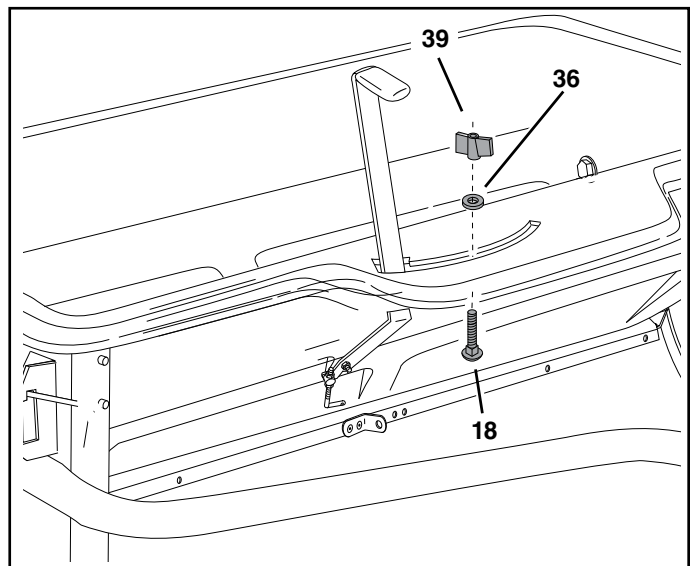

FIGURE 9
- Insert the 5/16" x 1-3/4" carriage bolt (18) up through the slot and secure it with a nylon washer (36) and the plastic wing nut (39). See figure 9.
- Move the lift handle into the locked position as shown in figure 9 and then tip the spreader back to rest on the wheels and the rear of the hopper.